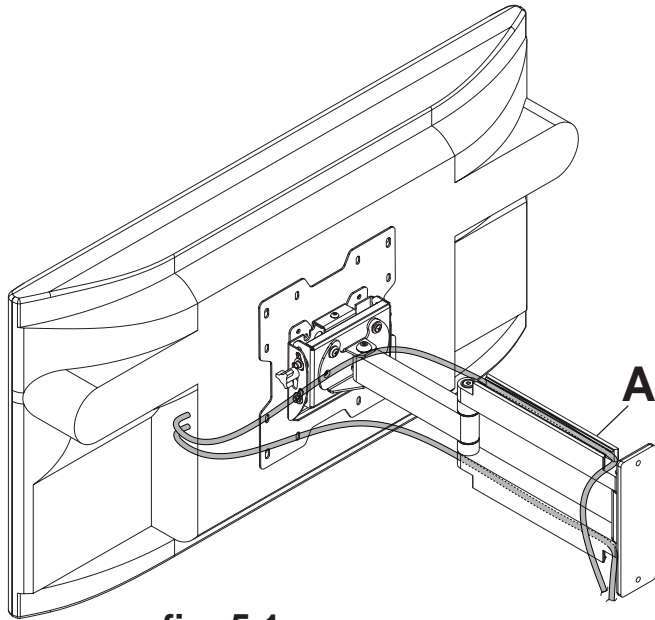

fig. 5.1
Route cords inside arm slots of wall mount (A) as shown in figure 5.1. **Optional:** Run power cord through one side of mount and signal cable(s) through other side in order to avoid interference with the signal.